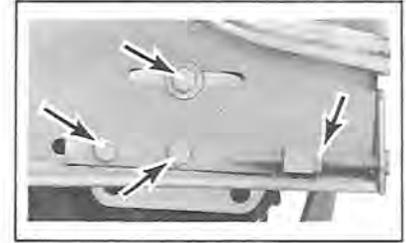

Figure 9-26
- Loosen adjusting bolt and jam nuts (see Figures 9-26 and 9-27).